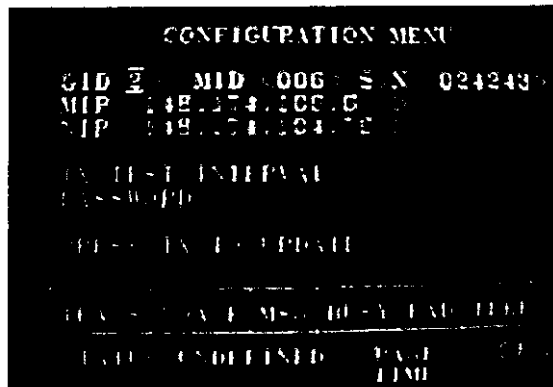

Figure 1: FMP FORMS-F Screen
- The FMT mode may be checked after power-up by selecting the "Forms-F" screen. The display should be similar to that shown in Figure 1, noting that specific values for parameters will differ from those shown.